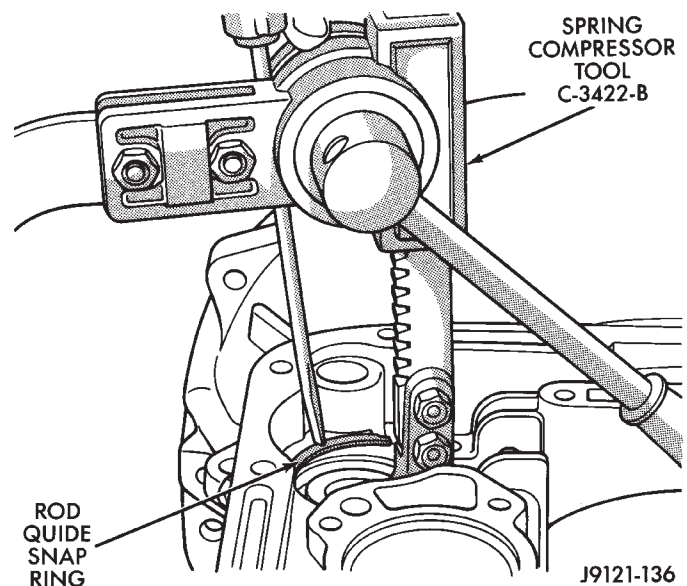
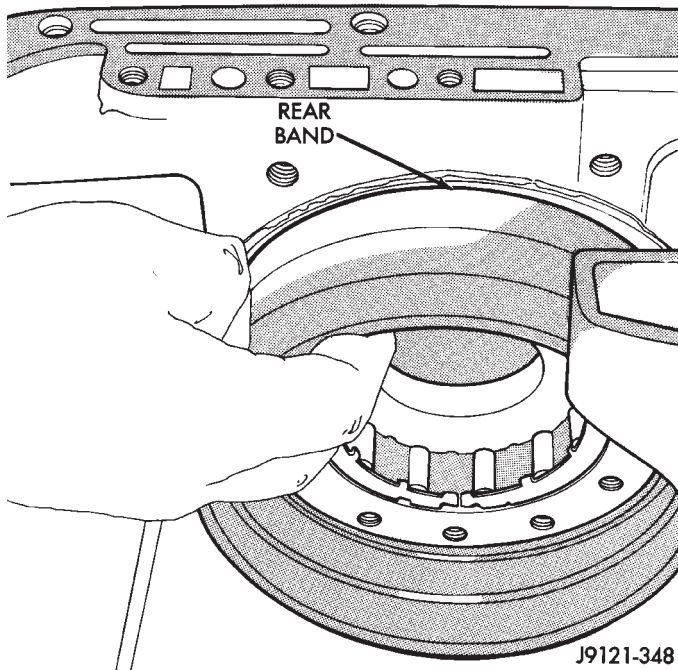

Fig. 116 Compressing Front/Rear Servo Springs
Fig. 117 Rear Band Installation
(3) Compress front/rear servo springs with Valve Spring Compressor C-3422-B and install each servo snap ring (Fig. 116).
(4) Lubricate clutch cam rollers with transmission fluid.
(5) Install rear band in case (Fig. 117). Be sure twin lugs on band are seated against reaction pin.
(6) Install low-reverse drum and check overrunning clutch operation as follows: